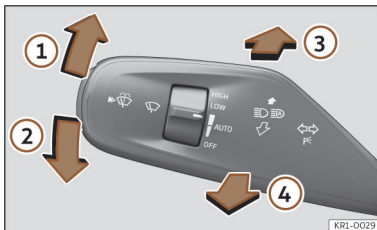

Fig. 94 Turn signal and main beam lever.
- From the neutral position, press the turn signal and main beam headlights lever forwards >>> **Fig. 94 ③**.
- **EITHER:** if main beam assist is on, pull the turn signal light and main beam headlights lever back >>> Fig. 94 (4).